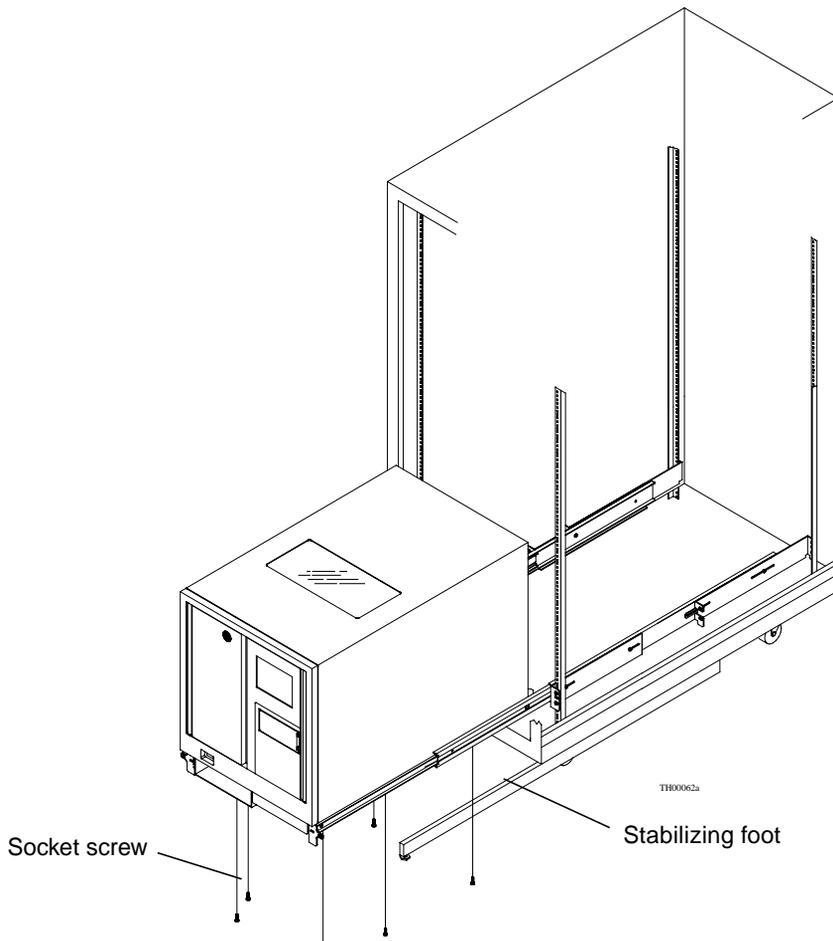

FIGURE 2-9 Attaching the Library to the Slide
3. Secure the library using the six socket screws from the accessory kit (FIGURE 2-9).